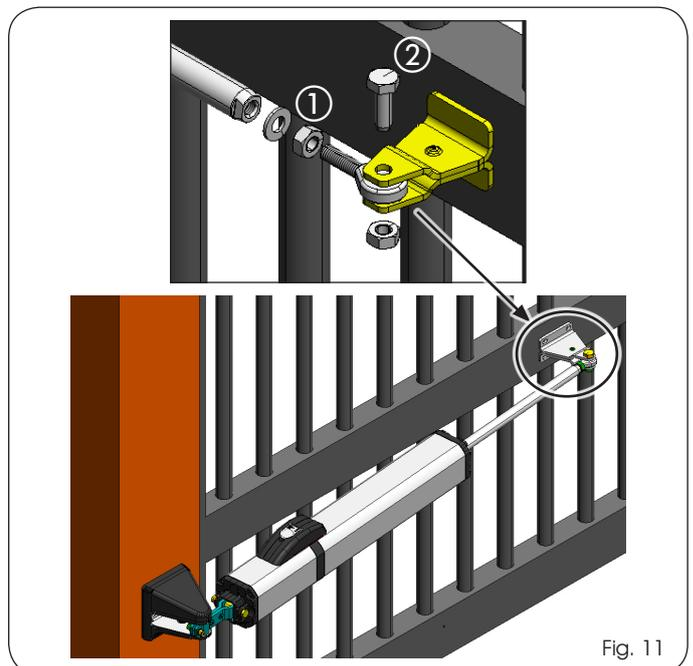

Fig. 11
6. Screw one-half of the thread of the front articulated joint on the operator rod and tighten the nut (Fig. 11 ref. ①).
10. Close the gate leaf and install the front fitting on the rod as shown in Fig. 11 ref. ②.